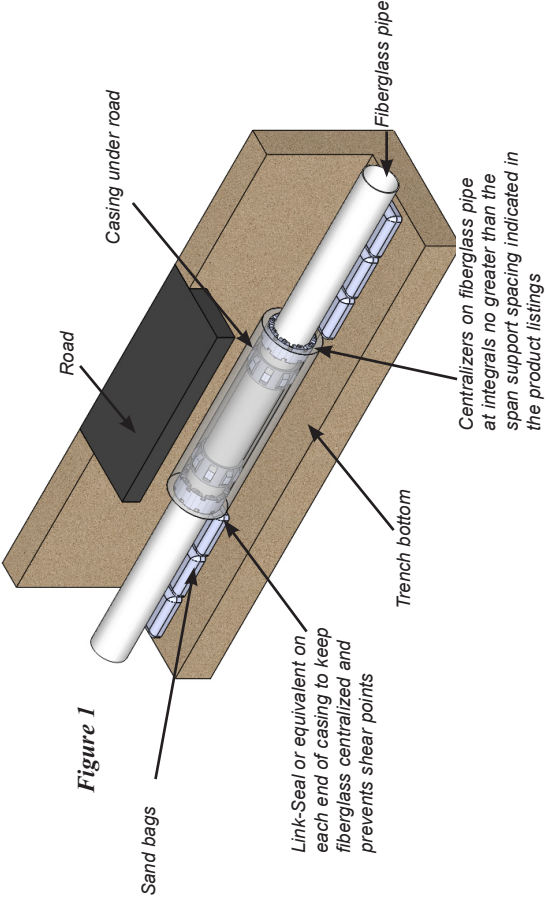

Figure 1
4. Pipe should be run through conduit at road crossings. Conduit should be sitting on virgin soil. Use centralizers or pad the pipe at intervals (specified in catalog spans) with protective covering inside conduit. Fiberglass pipe is pushed through the casing and joined. Link-Seals® are recommended to reduce any shearing tendencies at conduit ends. Sandbag fiberglass as it exits the conduit at each end (see figure 1).
5. Pipe should be run through conduit at road crossings. Conduit should be sitting on virgin soil. Use centralizers or pad the pipe at intervals (specified in catalog spans) with protective covering inside conduit. Fiberglass pipe is pushed through the casing and joined. Link-Seals are recommended to reduce any shearing tendencies at conduit ends. Sandbag fiberglass as it exits the conduit at each end (see figure 1). Conduit for 6", 8" and 10" low pressure pipe must be vented to atmosphere.